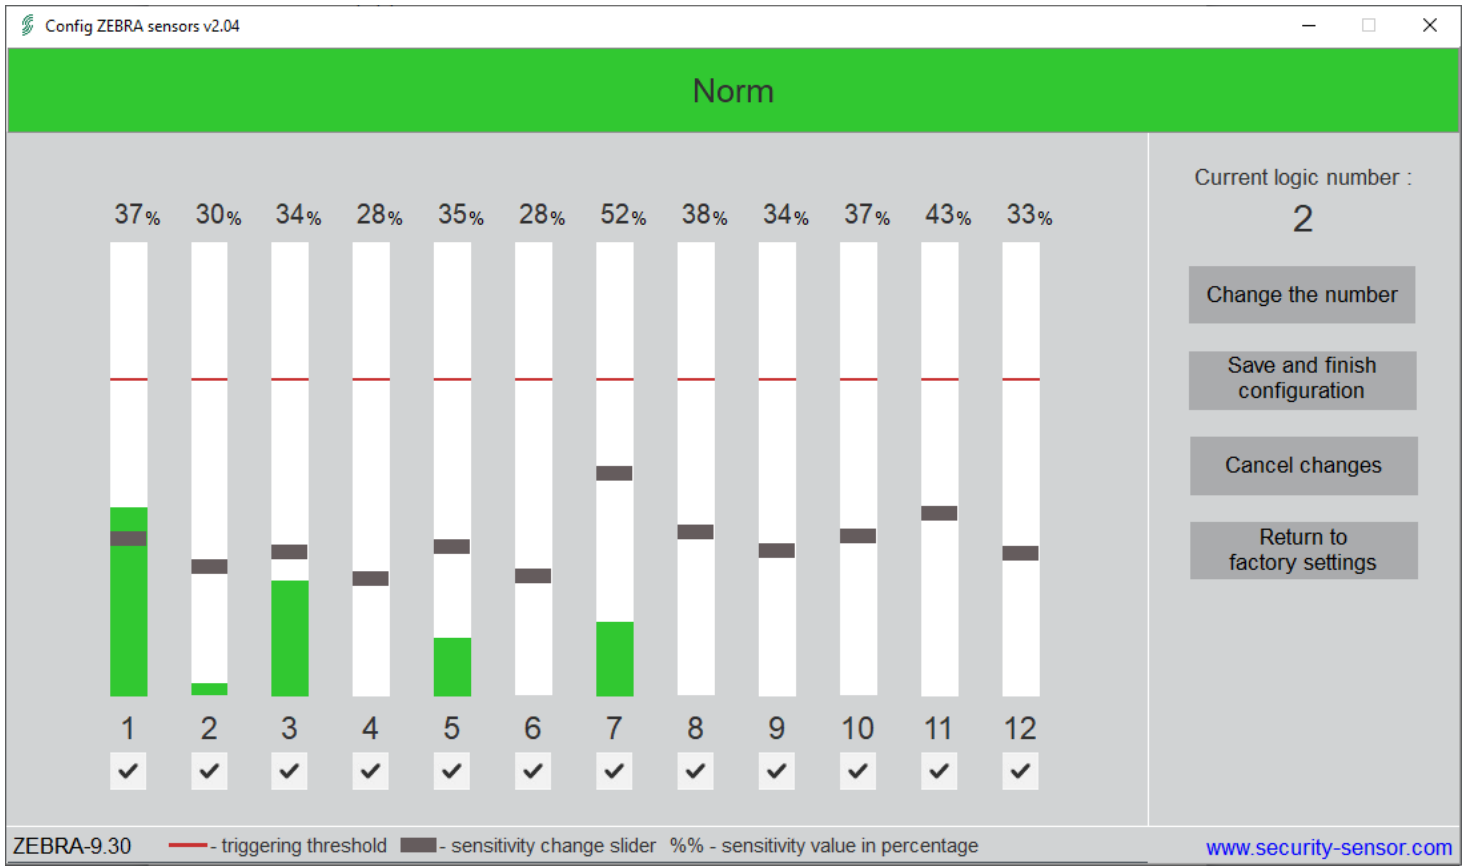

Figure 2.22
2.3.7.2.4 The program window in the mode “Configuration” looks like shown in Figure 2.22.